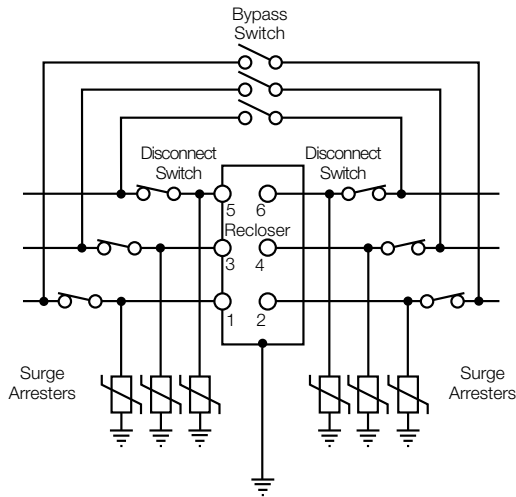

Figure 7. Connection diagram shows complete surge protection and illustrates bypass and disconnect switches.
B. Provide surge arrester protection. Surge arrester protection should be provided on both sides; refer to Figure 7.